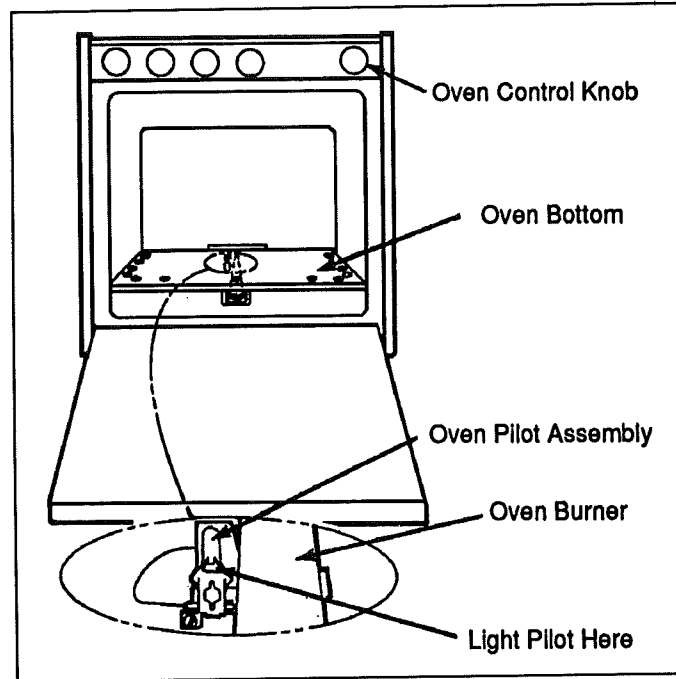

FIGURE 3
- c. Light oven pilot located at back of oven to the left of the oven burner (Figure 3).